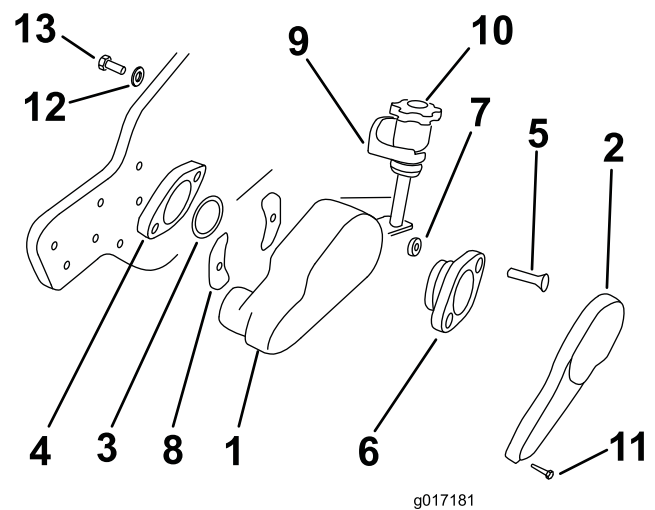
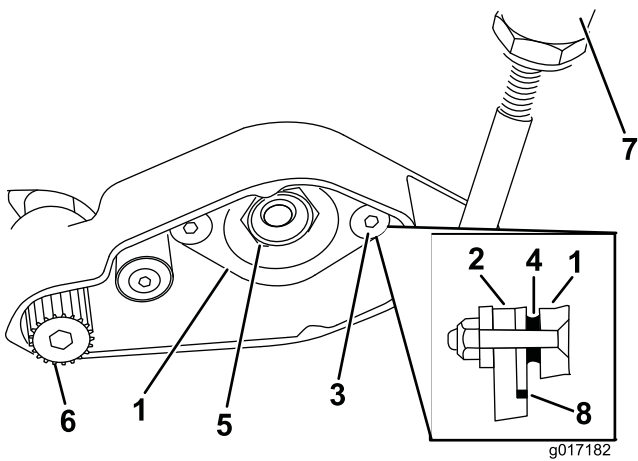

Figure 4
Figure 5
- A. Remove the 3 socket head capscrews and lock washers securing the cover to the groomer housing assembly (Figure 4).
- B. Remove the Belleville washer and the 3/8 x 5/8 inch capscrew from each mounting block (Figure 4).
- C. Insert an adapter ring into the reel bearing housing (Figure 4 & Figure 5).
D. Insert the two 3/8 x 2 inch flat head screws through the bearing adapter and position the spacers on the ends of the screws (Figure 4 & Figure 5).
E. Align the bearing adapter, spacers and screws with the bronze bearing and the slots in the groomer housing. Slide the bearing adapter through the bronze bearing and the screws through the slots in the groomer housing assembly (Figure 4 & Figure 5).
F. Insert a slot cover onto each screw, aligning the curved side of the slot cover with the curve of the groomer housing. The slot covers are to be positioned curving away from groomer housing (Figure 4).
G. Insert the flat head screws into the reel bearing housing. Install the locknuts on the screws and torque them to 23 to 27 ft-lb (31 to 37 N-m) (Figure 4 & Figure 5).
9. Slide one end of the grooming shaft assembly into the bearing support in the groomer housing assembly (Figure 5). Make sure the groomer blade tips are facing forward.
10. Apply blue Loctite to the threads on the groomer shaft. Thread the driven pulley (left hand thread) onto the end of the groomer shaft. Using a 3/8 inch Allen socket on a torque wrench, torque the pulley to 29 to 35 ft.-lb (39 to 47 N-m) (Figure 4 & Figure 5).
11. Mount the adjustment knob mounting block to the left side plate with the 3/8 x 5/8 inch capscrew and Belleville washer previously removed (Figure 4).
12. Reinstall the left bedbar adjuster frame to the side plate with the capscrews and washers previously removed (Figure 4).
13. Remove the reel bearing locknut from the reel shaft (Figure 5). Secure the reel from turning with a wood block.